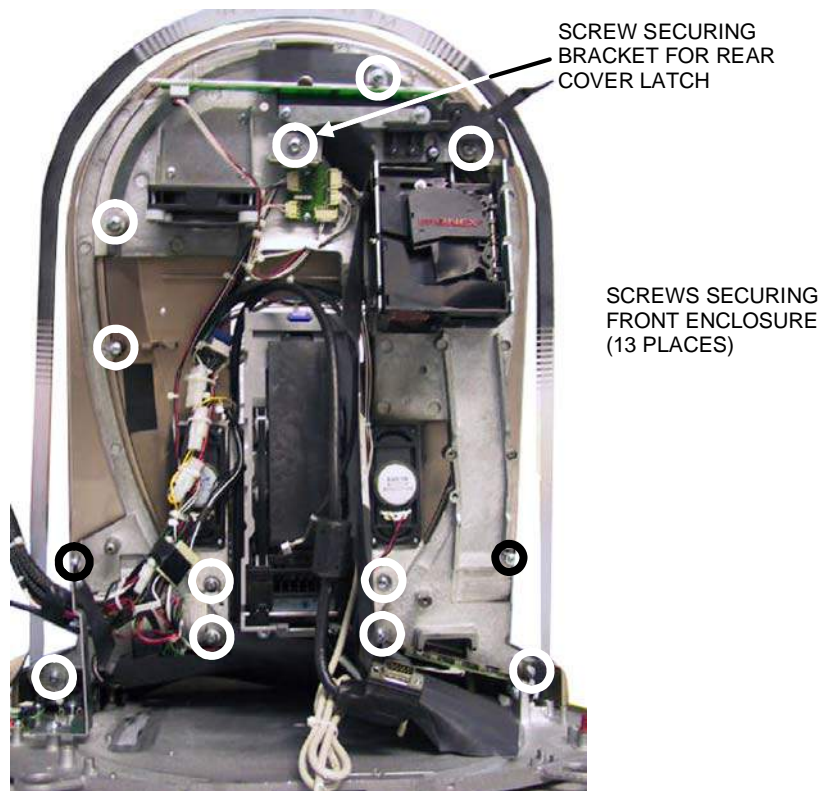

FIGURE 16 - REAR VIEW OF MEGATOUCH AURORA
18. Remove the 13 screws that secure the front enclosure and halo. Please see Figure 16 for reference.
27. After the front enclosure is fully seated, replace all 13 of the screws (along with their washers) that secure the front enclosure and the halo. Please refer to Figure 16 for screw locations.
*NOTE: Be sure that when you resecure the screw that holds the rear cover bracket latch, that the latch is facing down. See Figure 16 for screw location.*